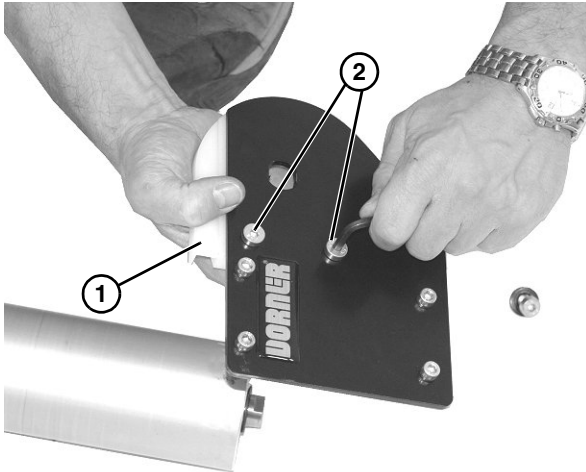

Figure 52
7. Check idler terminal assembly (**Figure 52, item 1**) for wear. If worn, remove two low head cap screws (**Figure 52, item 2**) and replace.